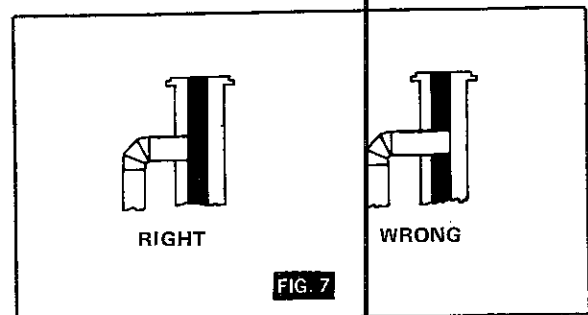

FIG. 7
4. Be sure the pipe does not extend into the chimney flue (Fig. 7.)